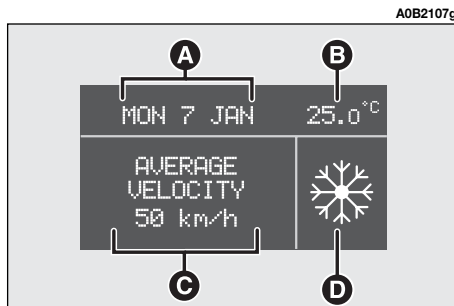

fig. 81
- Date (**A**-fig. 81)
- Outside temperature (**B**-fig. 81)
- Last item recalled from the Trip computer (e.g. Average velocity **C**-fig. 81) or engine oil temperature
- Warning message display with respective symbols (e.g. icy roads **D**- fig. 81).